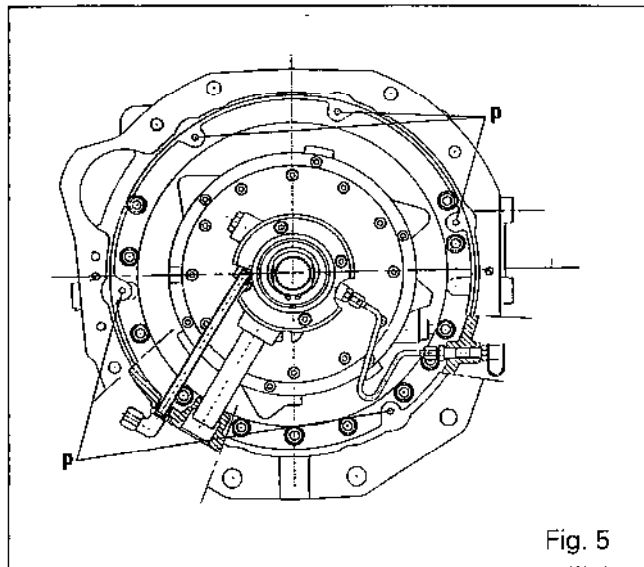

Fig. 5
15. Fit the oil seal (57) with a suitable fixture.
16. Place the O-ring (1) between bushes (2). Reinstall the splined bush (3). Replace the circlip (58) and position it correctly in the recess.
17. Check that the locating dowels (61) and shims (9) are in place.
18. Replace the O-ring (8).
19. Apply Loctite 510 to the periphery «P» of the tapped holes (Fig. 5).
44. If the finger (63) was removed, smear it with Loctite 270 and screw it onto the cover plate (10).
45. Check that the locating dowels (61) are in place. Replace the O-rings (8).
46. Clean the periphery «P» of holes and apply Loctite 510 (Fig. 5).